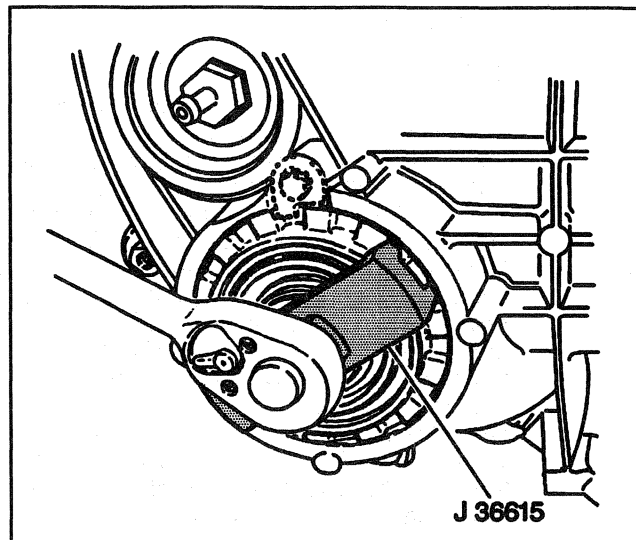
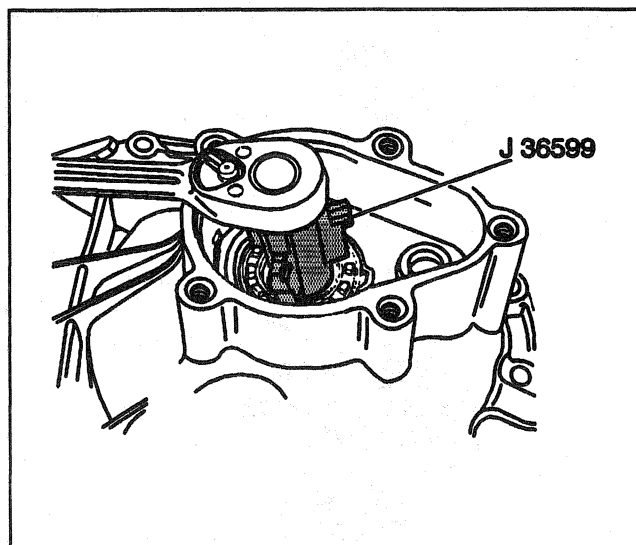

Figure 36—Turning the Adjuster Plug (K3 Models)
Figure 35—Turning the Adjuster Sleeve
- K1 and K2 models: Use J 36599 (Figure 35).
- K3 models: Use J 36599 for the right sleeve (Figure 35). Use J 36615 for the adjuster plug (Figure 36).
- K3 models: Use J 36615 (Figure 36).
- If the carrier halves do not make complete contact, back out the right sleeve. Use J 36599 (Figure 35).
2. Tighten the right sleeve to 140 N.m (100 lb ft) using J 36599 (Figure 35).
- Use J 36599 (K1 and K2 models) (Figure 35).
- Use J 36615 (K3 models) (Figure 36).